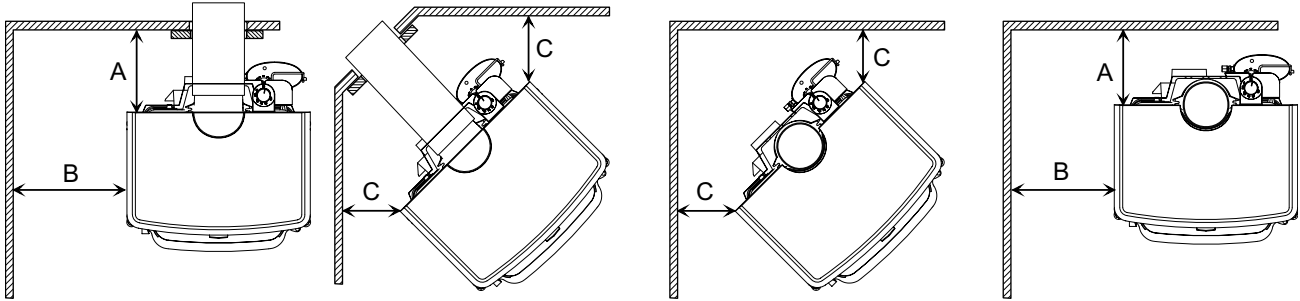
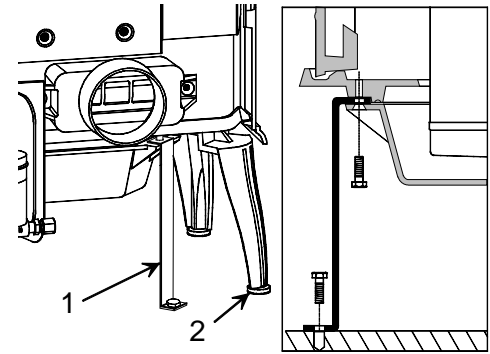
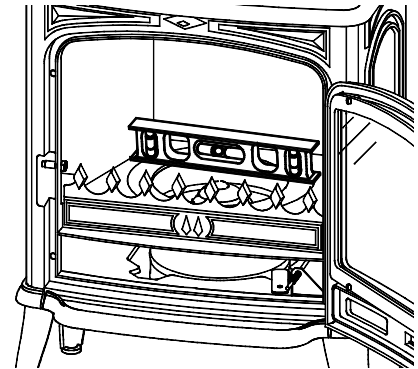

Figure 2
Figure 8
Figure 9
**Maintain these minimum clearances to combustibles (fig. 2) :**
The stove must be firmly bolted to the floor with 1/4 inch lag bolts (fig. 8, p. 8). Minimum clearances to combustibles are as shown in figure 2, page 5.
Four adjusting bolts with caps are supplied and which have been placed in the burner for packing purposes only. Fit the screws and caps to the bottom of the stove legs (3, figure 8). Place the level on the burner ring and adjust the bolts until the burner has reached a level position (figure 9). Secure the stove to the floor (2, figure 8) with the bracket provided (1, figure 8).